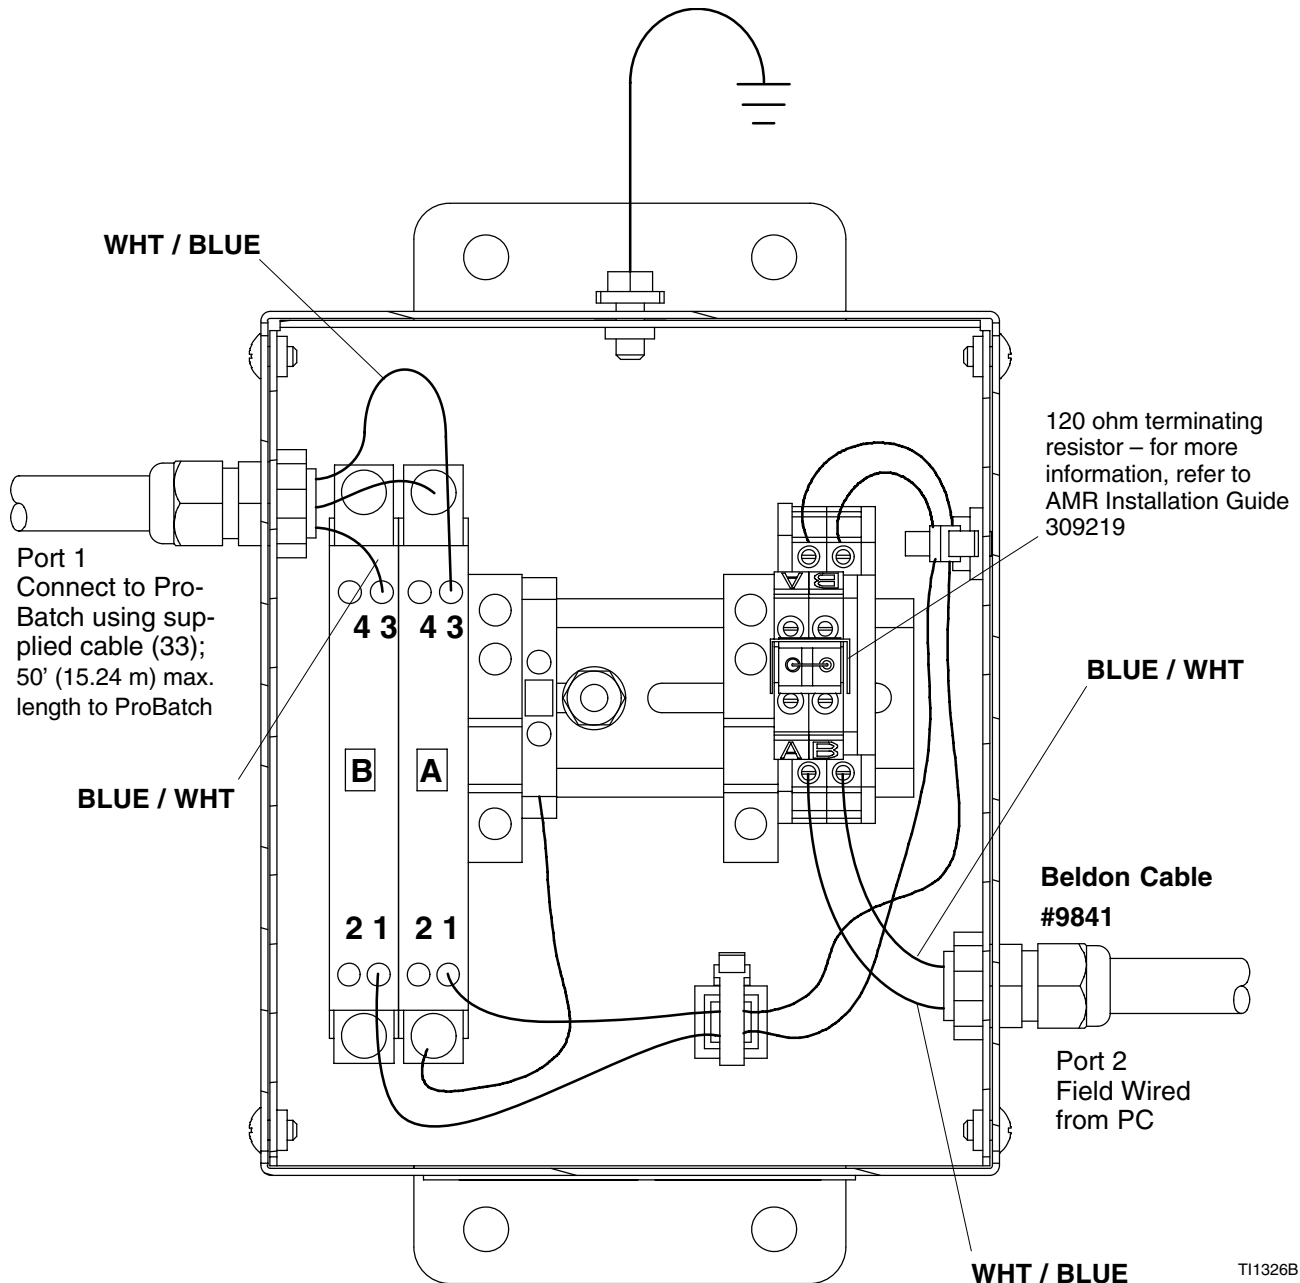
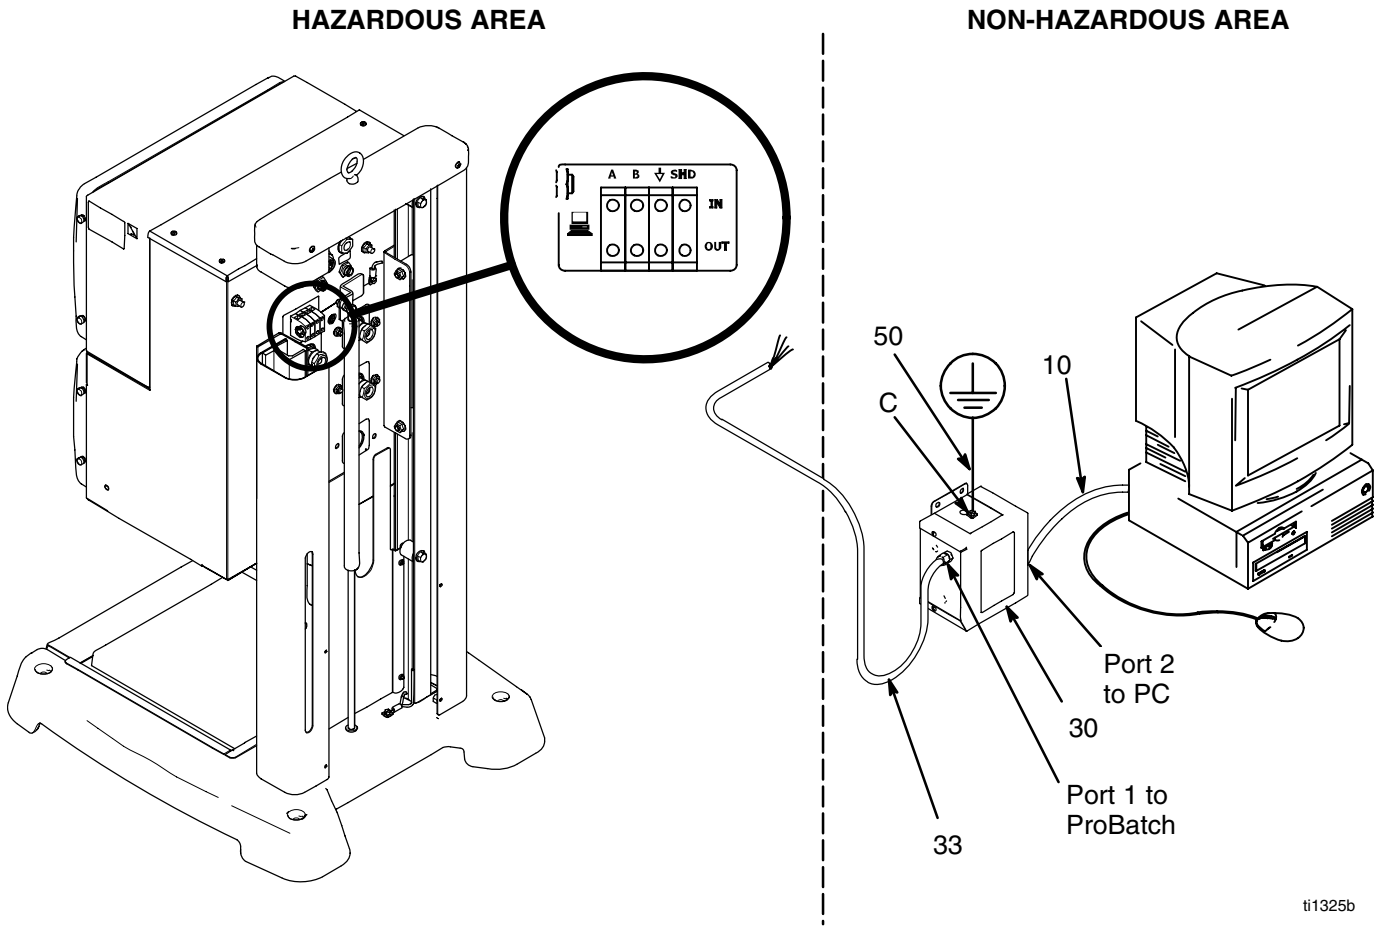

Fig. 3
Fig. 5
3. Mount the network interface (30) in the non-hazardous area (Fig. 5).
4. Connect the ground wire assembly (50) to the network interface ground lug (C) (Fig. 5).
5. Measure the resistance between the network interface ground lug (C) and true earth ground. The resistance should be less than 1 ohm.
8. Install cables and make wire connections as shown in Figure 3.